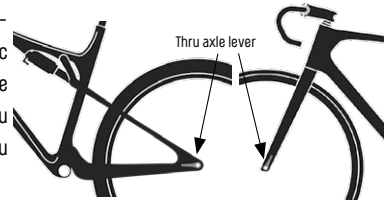

Fig. 2/40 KTM thru axle
i.e. the fork leg (.,Fig. 2/ KTM thru axle“ on page 40), you can change the position of the thru axle lever afterwards. To do this, loosen the 4 mm Allen screw and then move the lever to the desired position. Tighten the 4 mm Allen screw with 5 Nm torque.
The maximum permissible air pressure and the minimum and maximum possible tyre widths are indicated on the rim flanks („Fig. 1/ Representative image, rim sticker“ on page 42). The inner rim width determines the maximum possible tyre dimension („Fig. 2/ Source Schwalbe“ on page 42). In addition, the tyre diameter must match the bead seat diameter. For instance, a tyre size of 37–622 will fit onto a rim measuring 622 x 19C, as the inner diameter of the tyre corresponds to the bead seat diameter of 622 mm.